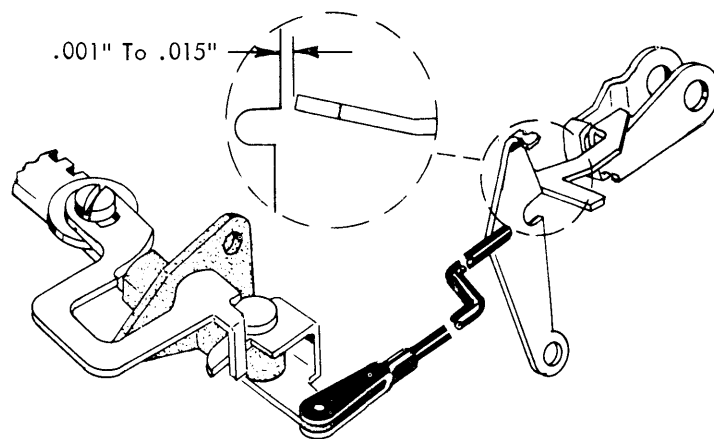

FIGURE 149. Clutch Unlatching Link
- Clutch Unlatching Link - With the margin rack held to its left limit the carrier return latch keeper should clear the latch by .001" to .015" at the unlatching point (Fig. 149). Check by manually holding the latch at the unlatching point while the machine is idling. Lengthen or shorten the unlatching link to obtain this clearance.